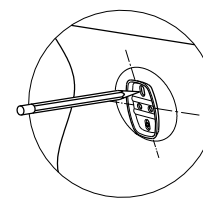
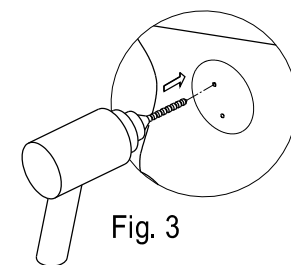

Fig. 2
Fig. 3
Step 3. Place the mounting plate in the center of the pencil outline you just made and mark the location of the mounting screws (fig 2). Drill holes at the marked locations (fig 3).